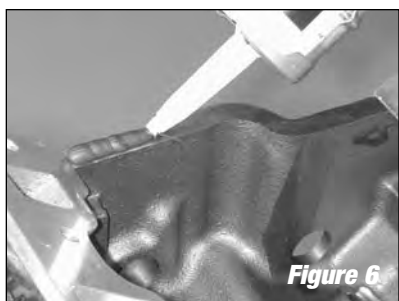

Figure 6
2. With the Edelbrock intake manifold, you must use RTV High Temp silicone sealer instead of end seal gaskets. Apply a 1/4" thick bead of sealant across each end seal surface (**See Figure 6**).